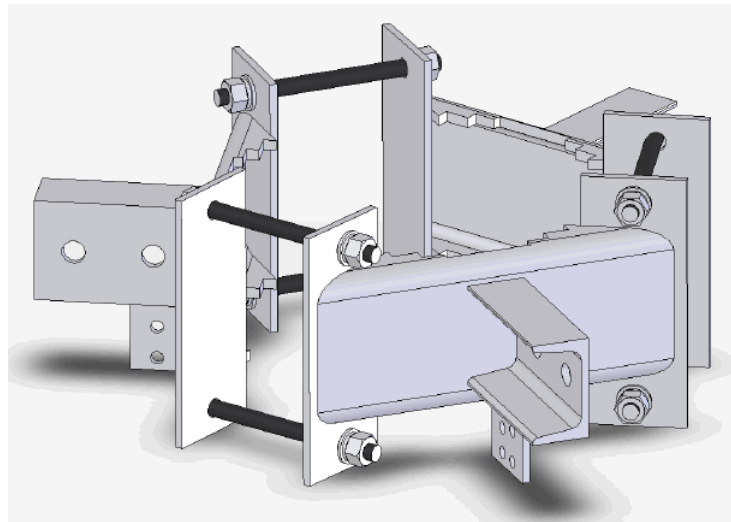
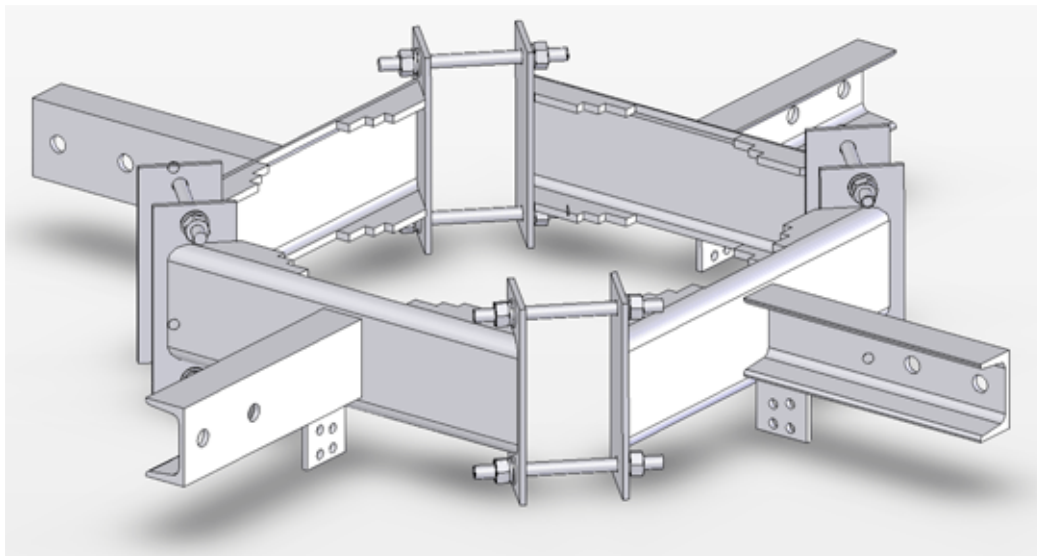
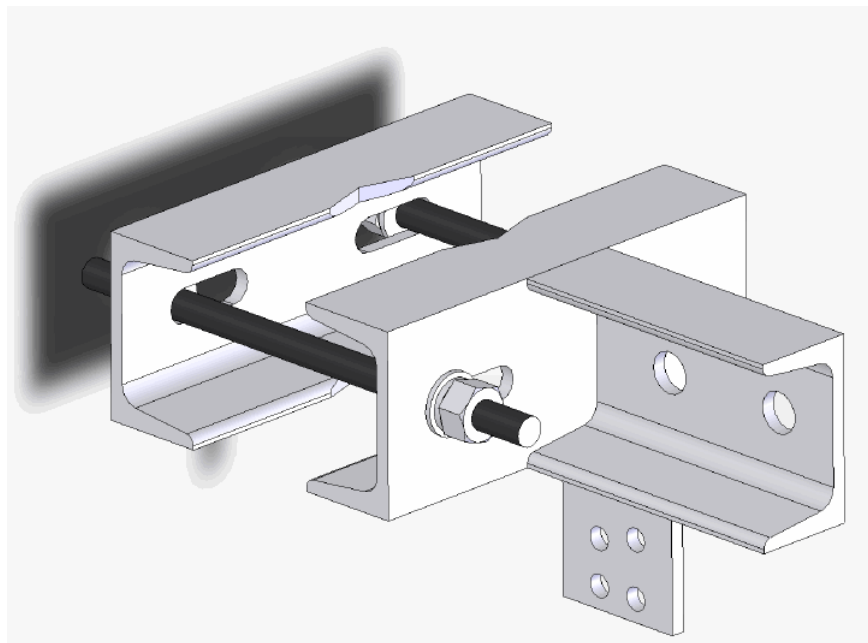
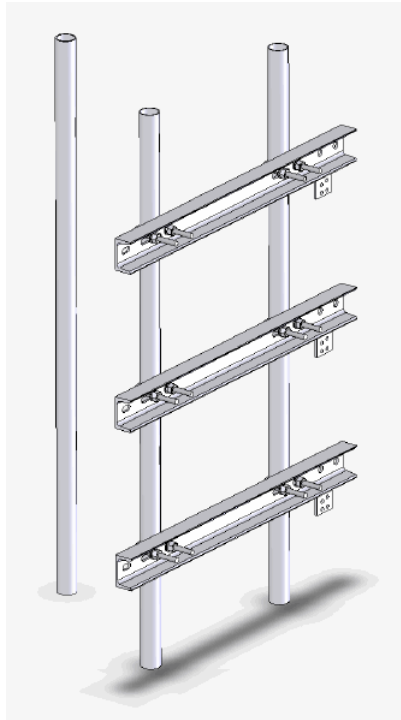

Figure C-5: 3 Sector Monopole Clamp (for 6"-10" and 10"-14" Monopoles)
Figure C-6: 4 Sector Monopole Clamp
Figure C-8: Tower Leg Clamp
Figure C-9: Mast Clamp
- **Clamps:** The clamps (Figure C-5, Figure C-6, Figure C-8 and Figure C-9) are used to attach the horizontal arms to the structure on which the H-Bracket is installed. The clamps differ depending on the type of structure on which the bracket is installed and must be ordered separately. The clamps include grounding connection plates, designed for standard 3/4" or 1" cable shoes (terminal lugs). (Refer to Section 6.5 for details.)